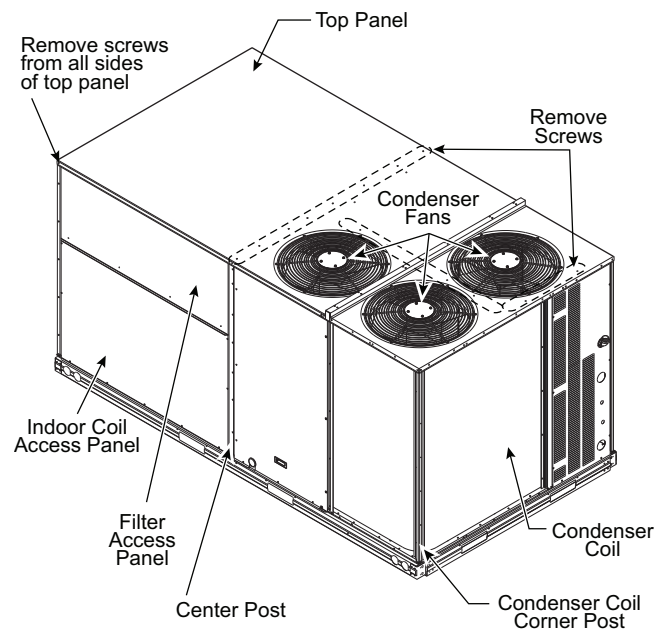

Fig. 17 — Location of Screws and Coil Corner Post
2. Remove all screws from the top panel except the screws securing the condenser fan to the top panel. (See Fig. 17.)